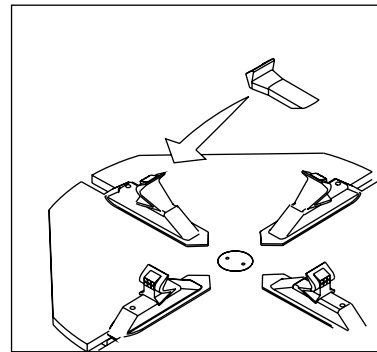

Figure 1-6
- Jaw Guards - Fit onto the clamping jaws to protect the rim from damage by the Clamping Jaws (shown in figure 1-6).